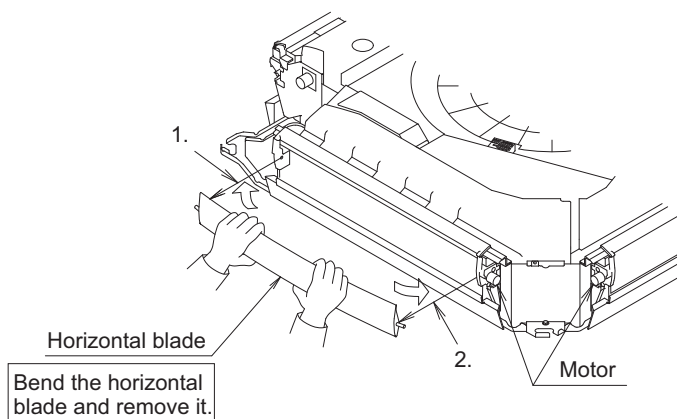
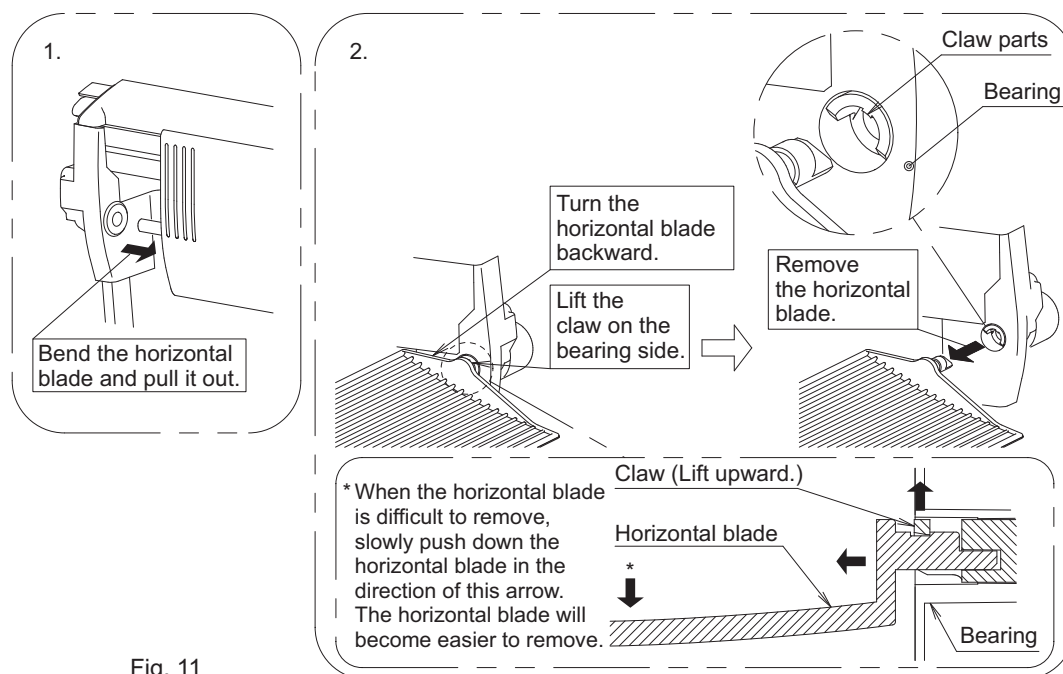

Fig. 10
Fig. 11
(1) Remove the horizontal blade of the air outlet to be blocked. (Refer to Fig. 10 and Fig. 11)